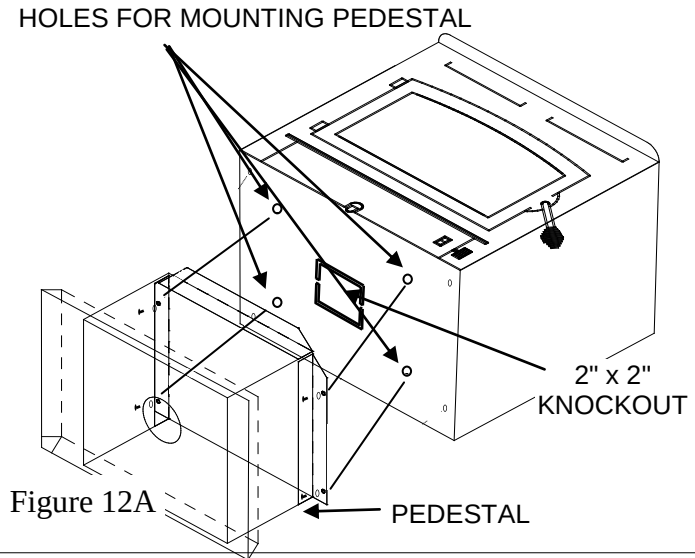

Figure 12A
6. **(Pedestal Kit):** If pedestal kit is being used an outside air is required, see *Out Side Air Installation* below. Before attaching heater to stand, take a large flat screwdriver or pliers and remove the 2" x 2" knockout on bottom of unit. (See Figure 12A). Open freestanding kit and obtain stand. Place stand against bottom of heater (angle side to heater). Center stand front to rear and also center stand left and right. Mark screw locations on bottom of stove through outer holes of stand mounting angles. Set stand aside and drill four 7/32" holes in heater bottom. Then mount stand to bottom of heater with screws provided. (See Figure 12A).
7. Obtain four (4) 3/16" self-tapping screws and secure stand to heater.